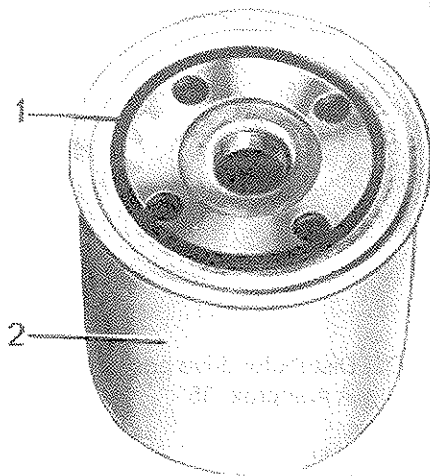

Fig. D4. Oil filter ready for fitting
Together with the element and relief valve, the oil filter (Fig. D4) is screwed as a complete unit on to a nipple fitted in the cylinder block.
2. Smear oil on the rubber gasket (1, Fig. D4), also make sure that the contact surface for the oil filter is free from dirt. By smearing it with oil, the gasket slides into better contact with the sealing surface. Screw on the filter by hand until it just touches the cylinder block.